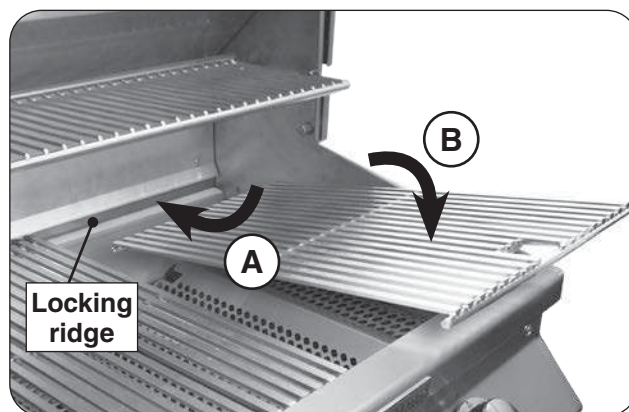

Fig. 20-2 Install cooking grids
1. Carefully place the rear of a cooking grid between the locking ridge of the rear wall (see Fig. 20-2, A). Then, carefully place the front of the cooking grid onto the front grid rest of the grill (see Fig. 20-2, B).